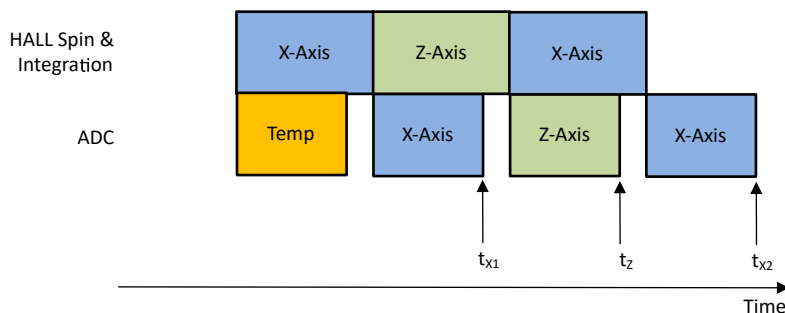

Figure 8-3. XZX Magnetic Field Conversion
In absolute angle measurement, application sensor data from multiple axes are required to calculate an accurate angle. The magnetic field data collected at different times through the same signal chain introduces error in angle calculation. The TMAG5273 offers pseudo-simultaneous sampling data collection modes to eliminate this error. Figure 8-3 shows an example where `MAG_CH_EN` is set at 1011b to collect XZX data. Equation 18 shows that the time stamps for the X and Z sensor data are the same.
- t_{X1} , t_Z , t_{X2} are time stamps for X, Z, X sensor data completion as defined in Figure 8-3.